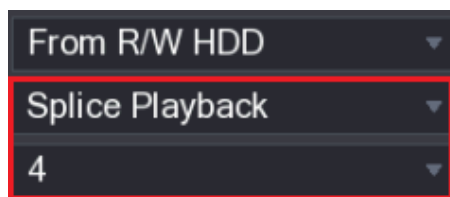

Figure 5-106
**Step 2** In the **Search Type** list, select **Splice Playback**; In the Split Mode list, select **4, 9**, or **16**. See Figure 5-106.